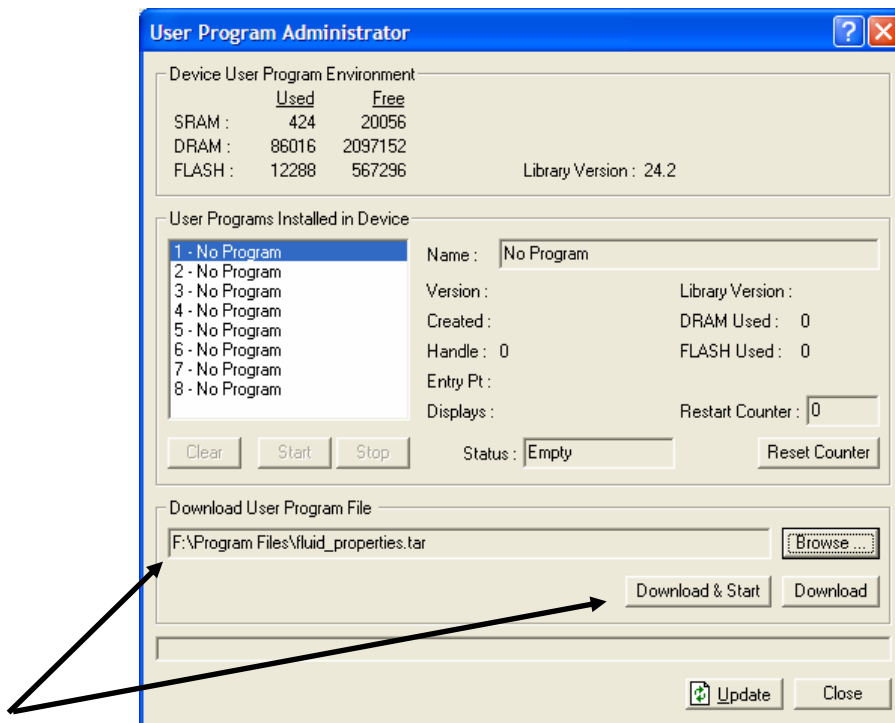

Figure 6. User Program Administrator
7. Click **Open** to select the program file. The User Program Administrator screen displays. As shown in Figure 6, note that the Download User Program File frame identifies the selected program and that the **Download & Start** button is active: